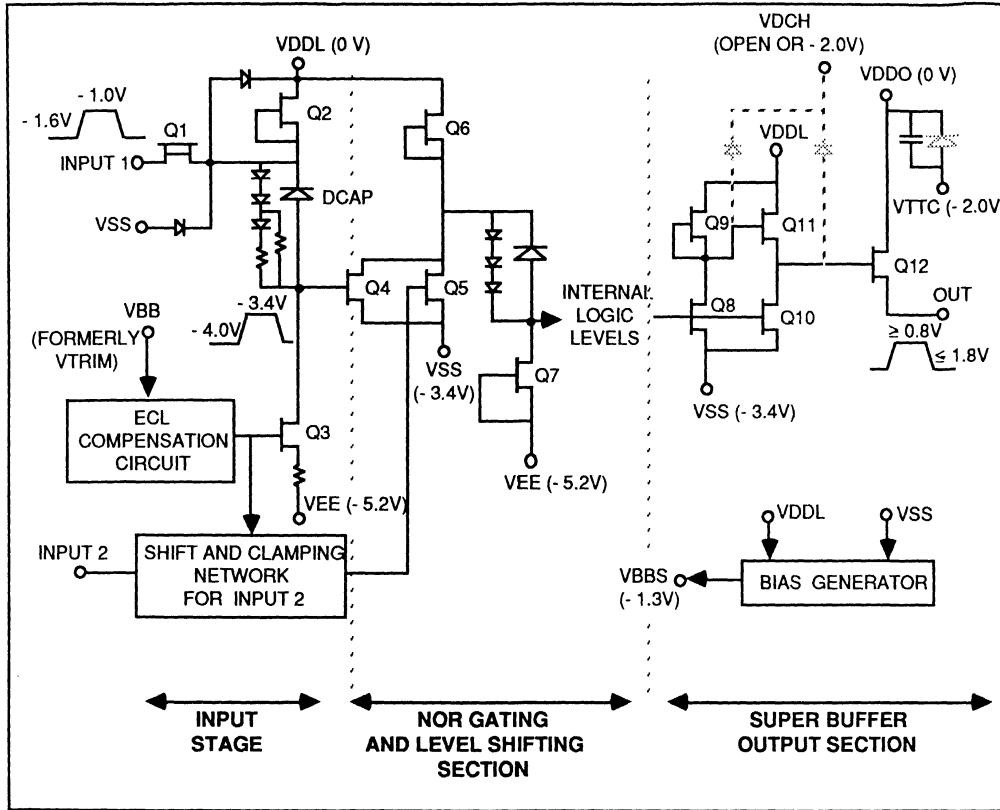

FIGURE 1. CDFL basic schematic for a 2-Input NOR gate
Figure 1 shows a portion of the schematic of an MSI logic function employing the basic CDFL NOR gate circuit building block. The circuit is implemented in 3 stages: input, NOR gating and output stage.
The output driver section, one of the major improvements from earlier generation PicoLogic designs, now incorporates a superbuffer. Earlier generation IC's used only an unbuffered source follower at the output. The superbuffer shown in Figure 1 is an additional gain stage formed by Q8, 9, 10, and 11 with Q11 and Q12 forming a Darlington-type output driver. This provides considerable drive capability to the gate of Q12, improving output rise time which makes it more nearly equal to the fall time of 100 to 150 ps. The size of the output source follower is equal to 600 to 750 microns which assures that minimum VOH of -0.8V can be maintained even when driving a 25Ω load terminated to -2.0V (48 ma).
Two shaded diodes are shown with dotted line connections to VDCH. These are used to limit the high state voltage that may be applied to the gates of Q11 and Q12 which in turn clamps the output high voltage. Connection of the VDCH pin to VTT = -2V will limit maximum VOH to ~ -0.5V. VDCH control of the PicoLogic VOH level is necessary, in some instances when a PicoLogic device drives an ECL device, to avoid saturating the ECL input. The voltage supplied to the VDCH pin may be adjusted if required to provide more precise control of the output high level. One feature of VDCH which should be noted is that its use will limit the waveform to the fastest portion, eliminating the "tail" on the rising edge. Alternate schemes for limiting VOH will be discussed in section IV-A of this application note. It should be noted that due to pin count limitations, the diodes and associated VDCH pin have been deleted in some recent designs, hence the shaded depiction in Figure 1.
- 2) The output stage was also different in that it lacked the superbuffer and consisted of only the output source follower (Q12 of Fig. 1).
With reference to Figure 1, the power supply requirements for the PicoLogic and NanoRam families are indicated in Table 1.
flow from the VDDO supply to the VTT supply, a capacitor inside the IC package can provide the charge needed during the turn-on transition to assure a short rise time at the output. Note that this capacitor is implemented with a reverse biased silicon diode in the case where the package employs a silicon substrate. For this reason, VTTC should never be connected to a potential more positive than VDDO. **Figure 1** shows the VTTC decoupling capacitor although it is on the silicon substrate rather than on the GaAs chip to emphasize that the diode is present in packaged parts. If VSS is used as the termination supply then the VTTC pin should be connected to VSS. Note that this pin requires no DC current.
With reference to **Figure 1**, the VBB input (formerly VTRIM) controls the ECL threshold tracking circuit in current generation PicoLogic devices. This circuit constitutes a major portion of the design methodology used to obtain precise input threshold matching and tracking when PicoLogic IC's are driven from low level inputs such as ECL. The use and operation of the threshold tracking circuit will be discussed extensively in section IV-B.
A VTTC (called VTT in data sheets prior to 1986) pin is indicated on the data sheets and on the schematic of **Figure 1**. This pin should be connected to the VTT (external termination voltage) power plane for normal ECL/GaAs interfacing. This pin does not connect to the GaAs die but provides for decoupling between the VDDO pin and VTTC pins. Since output currents